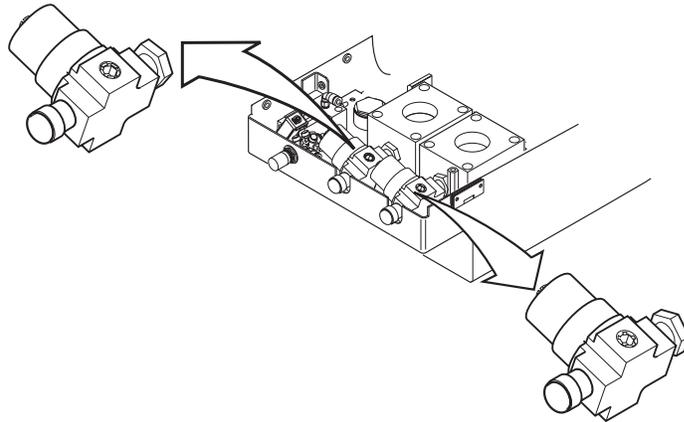

Figure 4-18 Removal of the Air and Oxygen Inlet Regulators
- 4** Use an adjustable wrench to loosen the nuts that attach the regulators to the servo valves (see Figure 4-18). Detach and lift out the regulators.